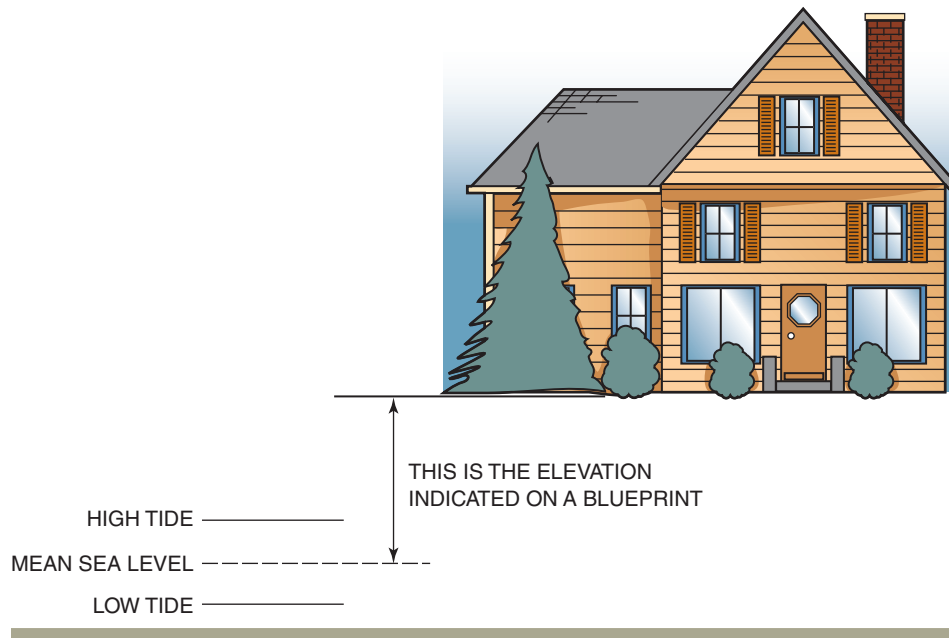

FIGURE 9-17 Mean sea level is determined from the average water level between high and low tide.
plan exposes the differences and similarities of all sides; which sides include brick or siding; and the location of doors, windows, chimney, and other features on each side of the home. Most elevation-plan blueprints indicate the finished ground (grade) level in relation to the finished floor (FF). Any indication of a finished grade is from mean sea level. If a numerical value of 101.50 feet is indicated as the finished grade, it represents the height above the sea when the seawater is between high and low tide. Figure 9-16 is a typical residential elevation plan, and Figure 9-17 illustrates the height of a building above mean sea level.